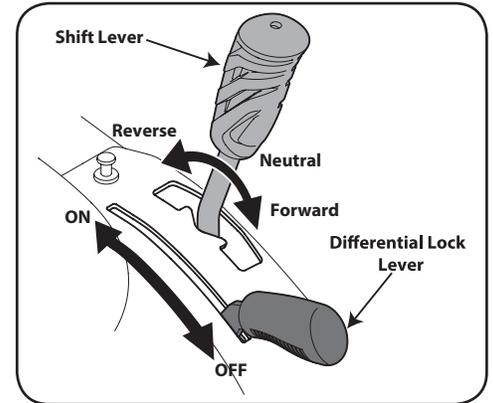

Figure 4-1
1. To engage; stop utility vehicle, place into Neutral, and pull the lever upward into the ON position. The differential will then lock and remain so until it is disengaged, giving equal power to both rear wheels. See Figure 4-1.
2. To disengage the differential lock; stop the utility vehicle, place in Neutral, and push the lever downward to the OFF position. See Figure 4-1.